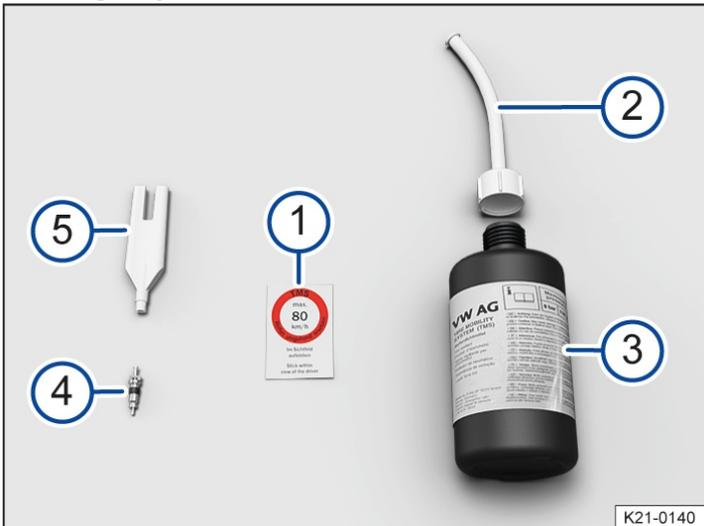

Fig. 1 Contents of the breakdown set (illustration).
- ① Sticker with the maximum permitted speed "max. 80 km/h" or "max. 50 mph".
- ② Tyre sealant tube with plug.
- ③ Tyre filler bottle.
- ④ Spare valve core.
- ⑤ Valve core extractor.
i There is a slot for the valve core on the lower end of the valve core extractor → Fig. 1 ⑤. This is required for extracting the valve core from the tyre valve and then screwing it back into the valve again. This also applies to the spare valve core ④.
1. Take the sticker from the breakdown set → Fig. 1 ① and stick it on the dash panel within the driver's field of vision.
3. Use the valve core extractor → Fig. 1 ⑤ to unscrew the valve core from the tyre valve. Place the core on a clean surface.
4. Shake the tyre filler bottle → Fig. 1 ③ vigorously to and fro several times.
5. Screw the tyre sealant tube → Fig. 1 ② tightly onto the tyre filler bottle in a clockwise direction. The seal on the top of the bottle is pierced when doing so.
6. Remove the plug from the filler hose → Fig. 1 ② and place the open end fully on the tyre valve.
9. Use the valve core extractor → Fig. 1 ⑤ to screw the valve core back into the tyre valve.